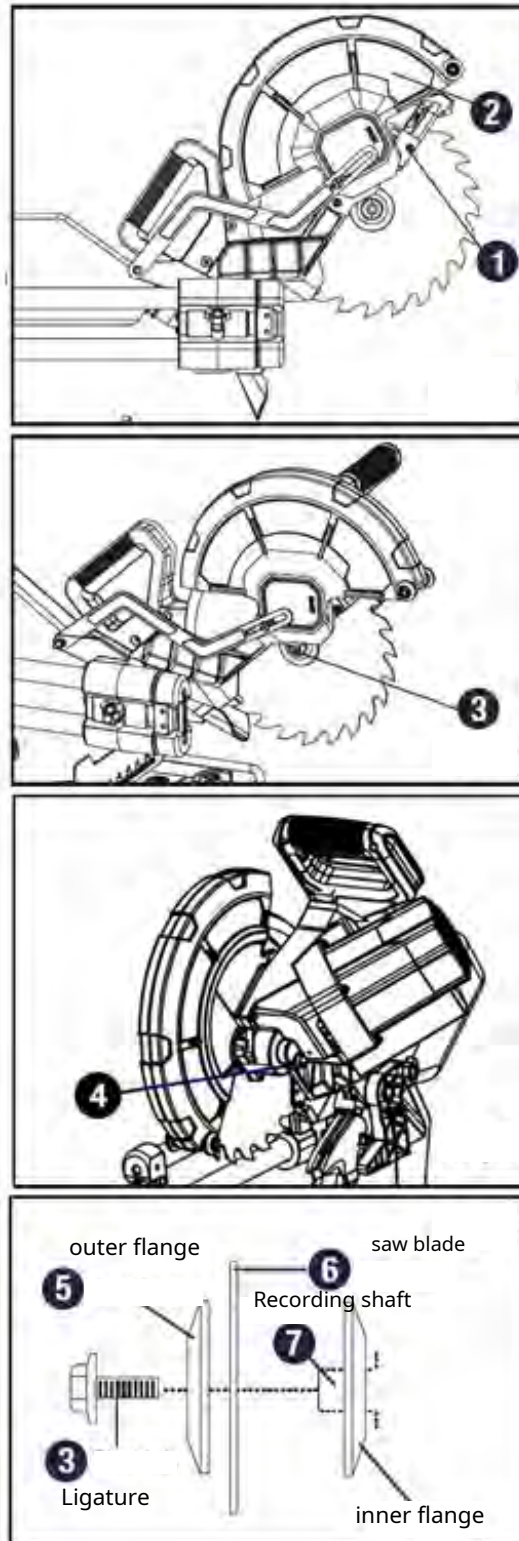

Fig. 8: Removing and installing the saw blade
- Step 2: Adjust the locking pin to secure the cutting head and raise the lower guard (pos. 2, fig. 8) as far as possible.
- Step 3: Loosen the screw of the protection (pos. 1, Fig. 8) approximately 4 turns with a Phillips screwdriver. Do not remove this screw from the device. The lower guard remains raised due to the position of the guard bracket screw.
- Step 4: Hold the spindle lock button (pos. 4, Fig. 8) and at the same time turn the saw blade until it is locked in position.
Step 5: Continue holding the spindle lock button- while turning the threaded screw (item 3, Fig. 8) clockwise with the Allen key to remove the threaded screw.
Step 6: Remove the outer flange (pos. 5, Fig. 8) and the saw blade (item 6, Fig. 8). Wipe the flanges and spindle to remove dust and dirt.
Place the arm onto the arbor with the lower guard raised (Item 7, Fig. 8). Align the arrow on the blade with the arrow on the upper blade guard. Make sure the saw blade teeth are facing downward.
- Step 6: Attach the protective bracket (Pos.1, Fig. 8)